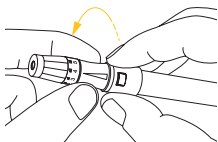

Figure 24
**STEP 5:** Set the Lancing Level. The adjustable tip offers five (5) levels of skin penetration. To select the desired depth, twist the adjustable tip in either direction until the number lines up with the arrow. To select the best depth: 1-2 for soft or thin skin, 3 for average skin, 4-5 for thick or callused skin. See Figure 24.